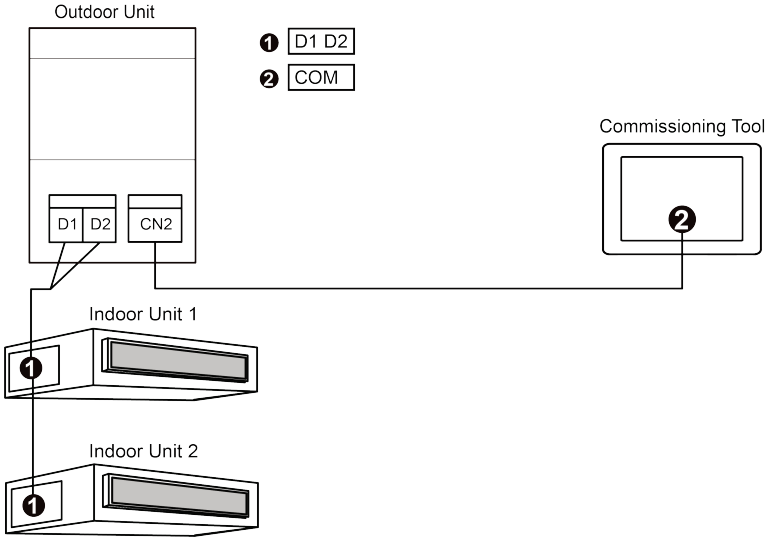
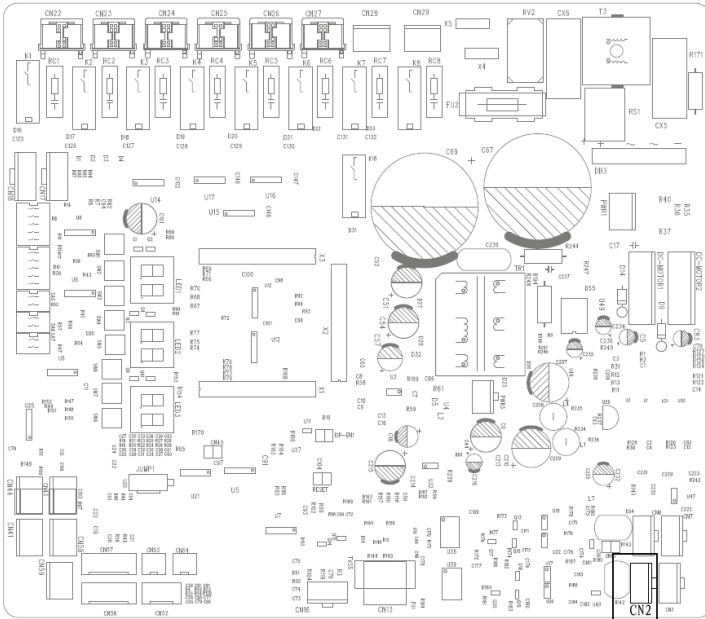

Fig.2.5 Connected with ODU Network of CAN Communication Unit
Fig.2.6 Debugger Interface in ODU Mainboard of CAN communication unit
- (3) If this product is to be connected with ODU network, connect according to Fig.2.5. during connection, one end of 4-core long connection wire is connected with COM interface of this product; the other end is connected with CN2 interface of ODU mainboard (Fig.2.6).
- (4) DIP of ODU address shall be set. You must set this DIP in main control ODU. The setting code (SA8) of main control unit shall be set to "00". Otherwise, it is invalid.
The debugging interfaces in IDU and ODU mainboards as shown in Fig.2.4, Fig.2.6 are only for reference. Detailed interface position please refer to the actual IDU mainboard and ODU mainboard.